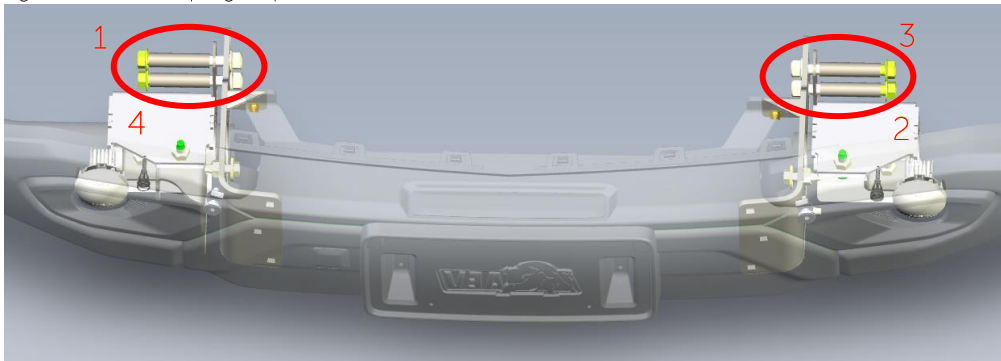

Figure 9 – M12 Torquing Sequence
- M12 Bolts - M18 socket – 112 +/- 8 Nm – Fig. 9